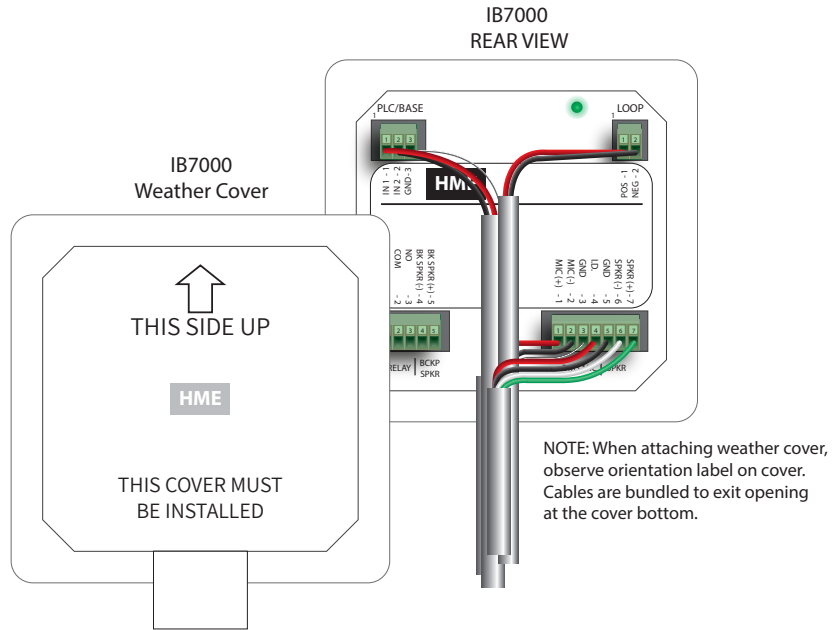

Fig. 7.2
The IB7000 interface box is required when connecting the DM5 microphone and SS7000 speaker or SP10 speaker to NEXEO. Adhesive strips allow the IB7000 to be affixed to a clean, dry surface inside the speaker post. The max IB7000 cable length to guarantee operation at max volume should not exceed 500 ft (152 m). Fig. 7.2 and Fig. 2.12 (on page 10) show how the IB7000 is typically connected.
**Note:** The cover must be oriented and installed correctly to be effective (see Fig. 7.2).
1. Orient the weather cover correctly before installing (see the up arrow on the cover rear, Fig. 7.2 & 3).